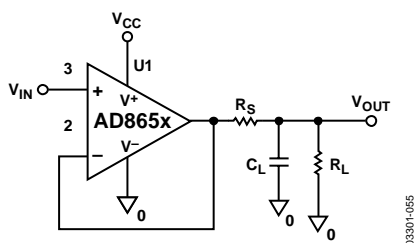

Figure 56. Driving Large Capacitive Loads
- As shown in Figure 56, place a small value resistor (R_S) in series with the output to isolate the load capacitor from the amplifier output. Heavy capacitive loads can reduce the phase margin of an amplifier and cause the amplifier response to peak or become unstable. The **AD865x** is able to drive up to 47 pF in a unity gain buffer configuration without oscillation or external compensation. However, if an application requires a higher capacitive load drive when the **AD865x** is in unity gain, the use of external isolation networks can be used. The effect produced by this resistor is to isolate the op amp output from the capacitive load. The required amount of series resistance has been tabulated in Table 5 for different capacitive loads. While this technique improves the overall capacitive load drive for the amplifier, its biggest drawback is that it reduces the output swing of the overall circuit.